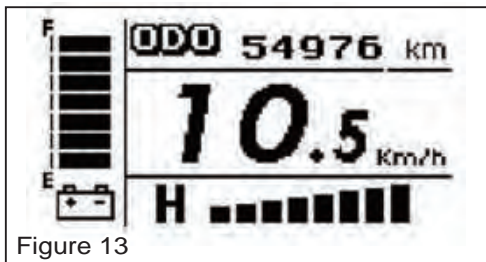

Figure 13
**[ODO] Odometer mode (Figure 13) :**